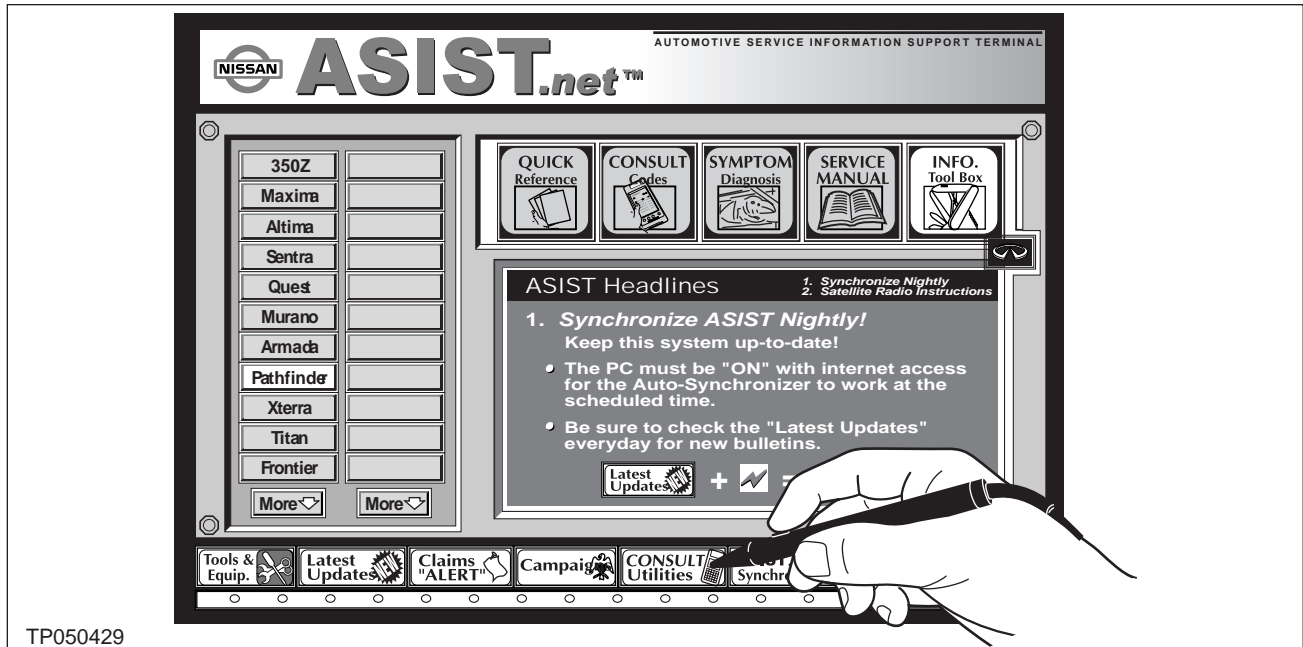

Figure 3
5. From the ASIST PC main menu screen, select "**CONSULT UTILITIES**" (see Figure 3).